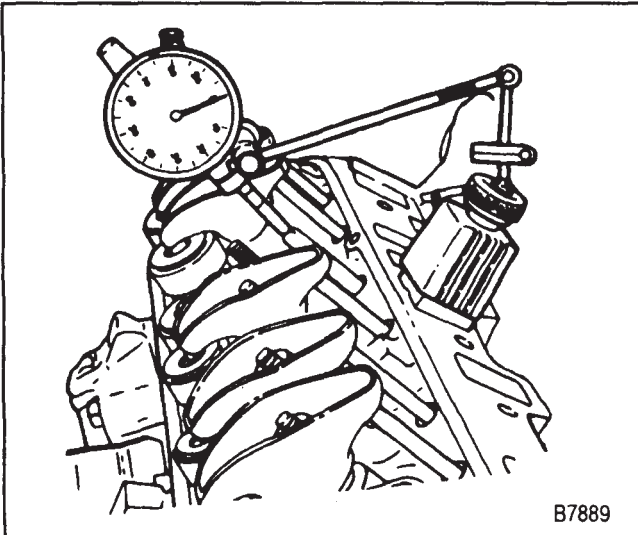

Figure 39—Measuring Camshaft Lobe Lift
2. Position the dial indicator (part of J 8520) so the plunger rests on the pushrod end, as shown in figure 39. Make sure the pushrod is in the lifter socket.